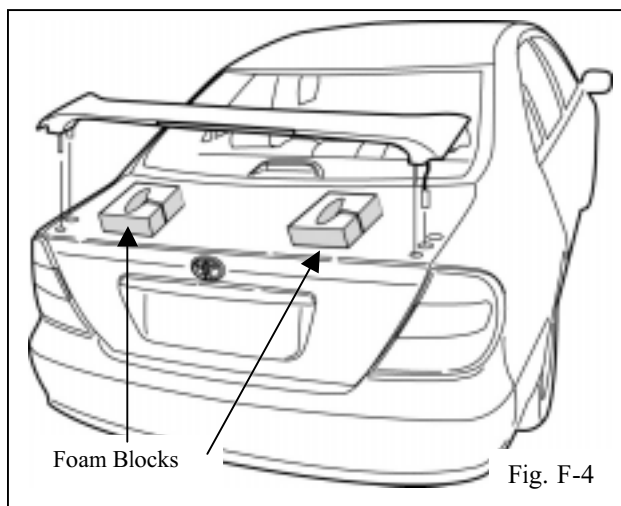
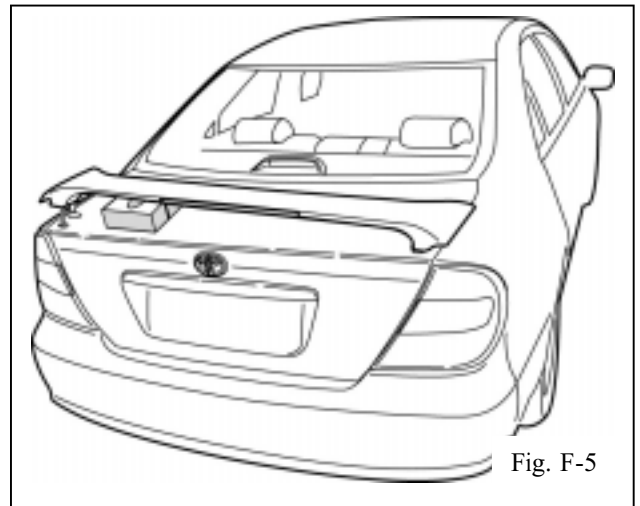

Fig. F-4
Fig. F-5
4. Position the spoiler over the trunk lid with the drill holes aligned to the spoiler studs. (Fig. F-4)
5. Feed the wiring harness through the middle hole on the passenger side of the vehicle. Remove the foam block from the passenger side and gently lower the spoiler. (Fig. F-4 & Fig. F-5)